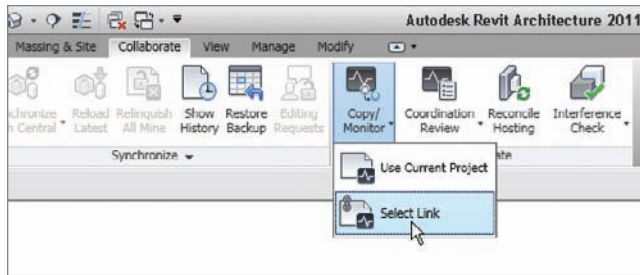

FIGURE 20.4 The Copy/Monitor button on the Coordinate panel of the Collaborate tab
2. On the Coordinate panel of the Collaborate tab, click the Copy/Monitor button. On the fly-out, click Select Link, as shown in Figure 20.4.